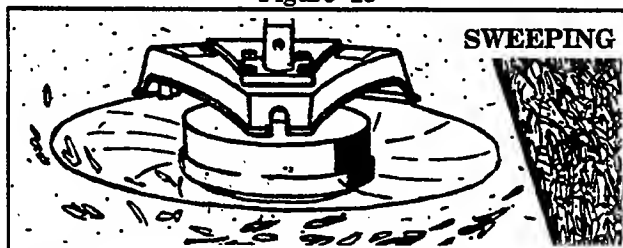

Figure 14
4. **SWEEPING** – Figure 14. The fanning action of the rotating line can be used for a quick and easy clean up. Keep the line parallel to and above surfaces being swept and move tool from side to side.